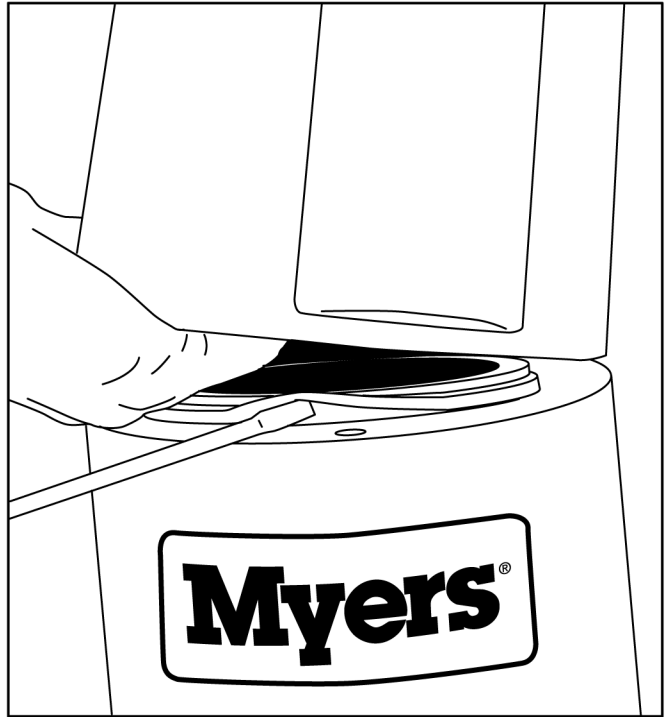

FIG. 12
5. Replace capacitor housing, be sure rubber seal ring is in place. Fig. 12